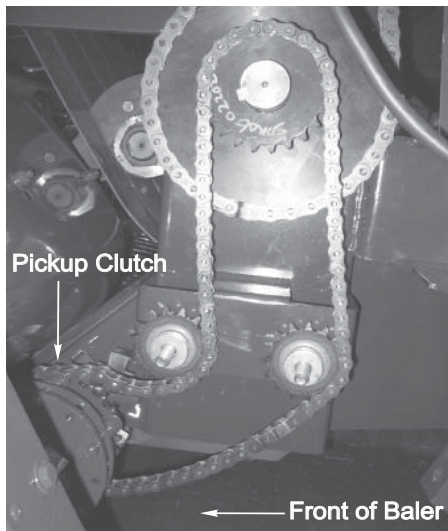
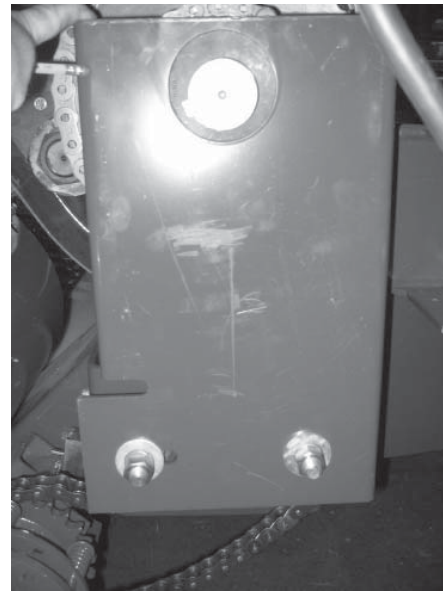

Figure 1-5 Pickup Drive Chain
Figure 1-6 Pickup Chain Guard
4. Connect pickup drive chain on left side of baler (see Figure 1-5). Make sure to replace pickup chain guard when finished (see Figure 1-6).